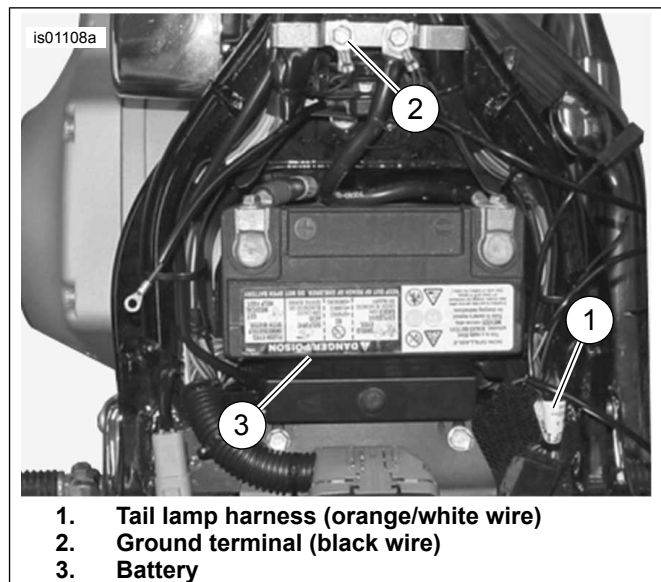

Figure 2. Power and Ground Connections (Softail Models)
- See Figure 2. Install the ring terminal onto the ground screw threads. Fasten the ground screw to the frame (2) and secure per the torque specification in the service manual.
- See Figure 2. Carefully slice open an area of the tail lamp harness (1) wrap at an accessible point under the seat, and cut the orange/white wire.